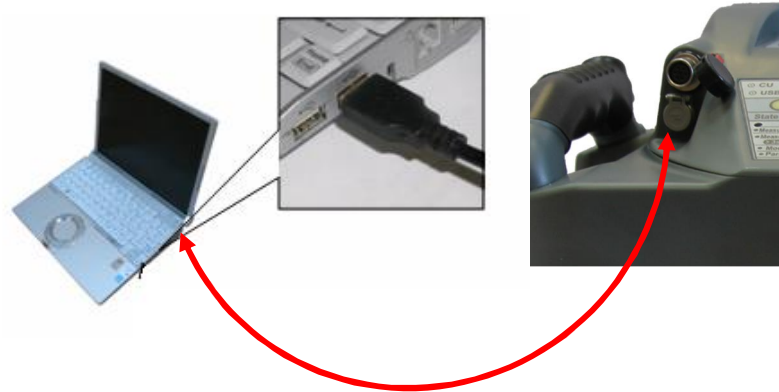

Fig. 5.28 GPR Detector and laptop connection to copy the saved files
- connect the laptop to the GPR-Detector by USB cable (see Fig. 5.28);